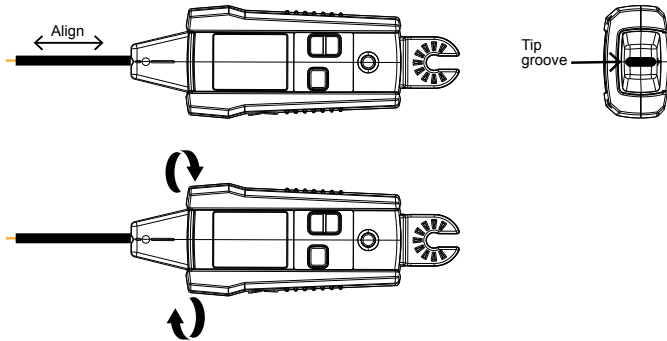

Figure 3.1e: Aligning the tip sensor groove
3. For best results while tracing Energized wires, align groove on the Tip Sensor with wire direction as shown in Figure 3.1e. Signal may be not detected if not properly aligned. To verify wire direction, periodically rotate the Receiver 90 degrees. Signal strength will be the highest when wire is aligned with the Tip Sensor groove. Depending on the detected signal, the Receiver automatically switches to either Energized (⚡) or De-energized (⚡ with slash) mode, and displays this information on the LCD. No manual setup is necessary.